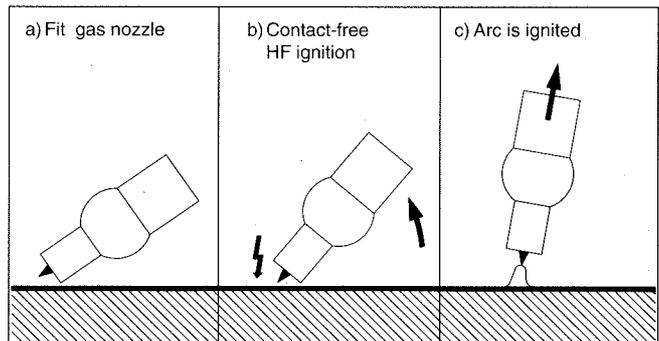

Fig. 23: Ignition with aid of ignition device.
- Make sure the welding current is switched off. Place the electrode on the weld at the point where the arc is to be ignited, tilt the torch backwards until the edge of the gas nozzle is resting on the workpiece, leaving a gap of between 2 and 3 mm between the tip of the electrode and the workpiece (*Fig. 23-a*).
- Close your visor (*Fig. 23-b*).
- Move the torch into the normal position (*Fig. 23-c*).